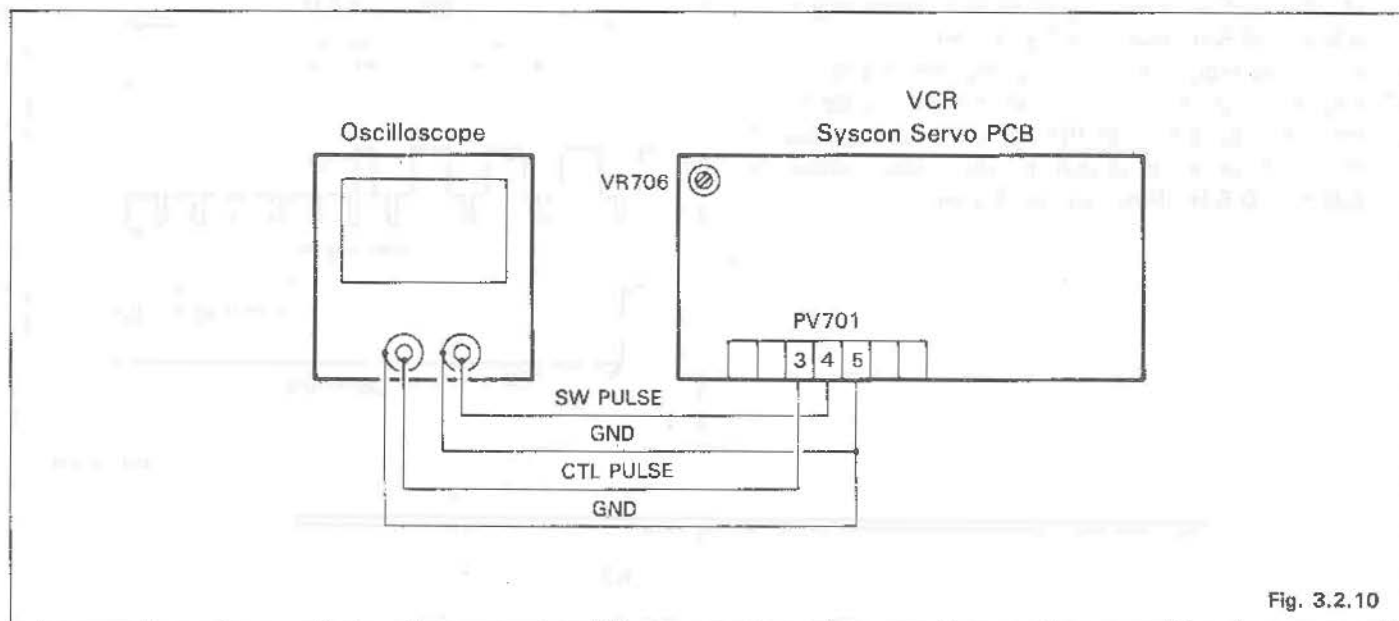
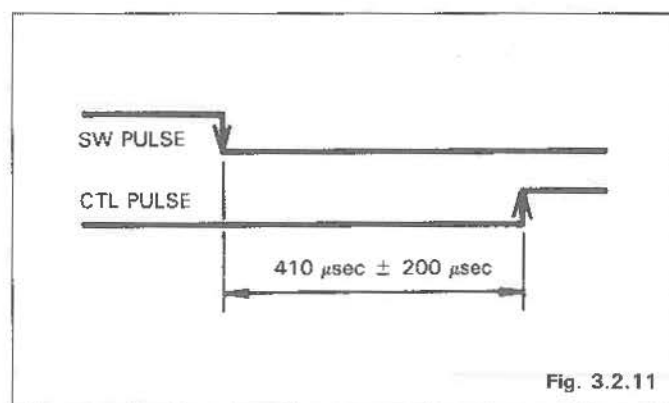

Fig. 3.2.10
Fig. 3.2.11
1. Connect the oscilloscope to pins 4 (SW PULSE) and 5 (GND) of PV701. (Refer to Fig. 3.2.10)
2. Connect the oscilloscope to pins 3 (CTL PULSE) and 5 (GND) of PV701. (Refer to Fig. 3.2.10)
4. Load the alignment tape (VNM-7), and set the VCR to the PLAY (SP) mode.
6. Adjust VR706 (TRACK) so that the displacement from the fall of the SW PULSE to the rise of the CTL PULSE is  $410 \mu\text{sec} \pm 200 \mu\text{sec}$ . (Refer to Fig. 3.2.11)